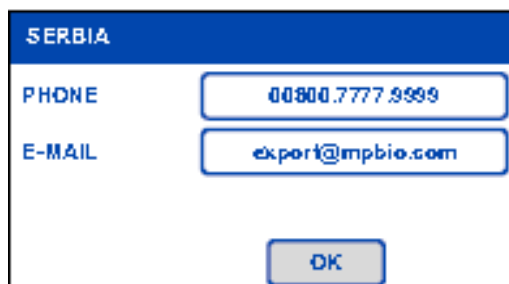

Figure V-42: Country Specific Service Listing
3. Press [COUNTRY NAME] to display the desired MP Biomedicals' Technical Services contact information, including email address and telephone number (Figure V-42).